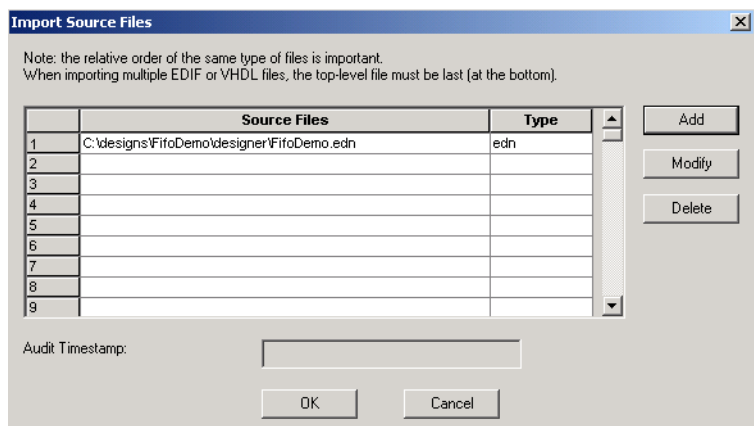

Figure 2-6. Import Source Files Dialog Box with EDIF File Added
3. **Select your EDIF netlist and click *Import*.** The File is added to the Import Source Files dialog box, as shown in Figure 2-6.